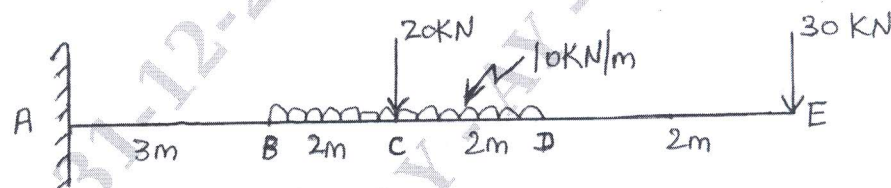

Fig.Q.5(c)
- c. Draw shear force and Bending Moment Diagram for the cantilever beam shown in Fig.Q.5(c). (10 Marks)